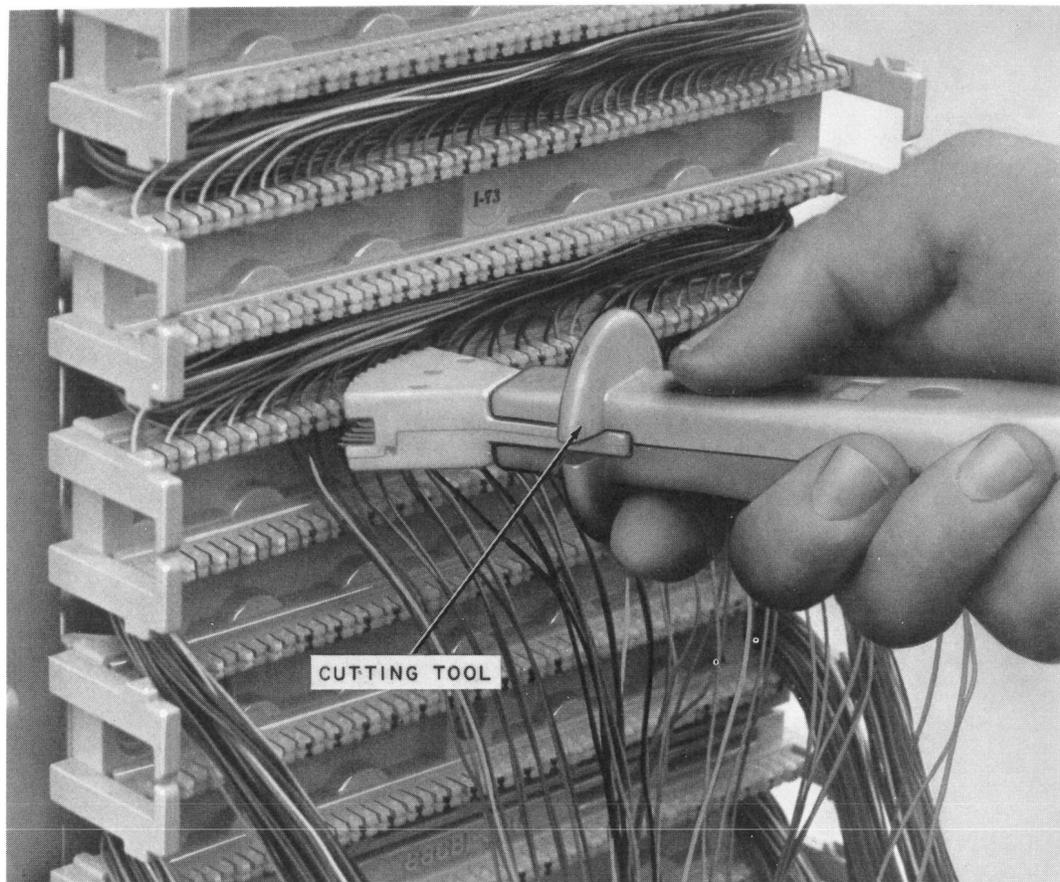

Fig. 19—Cutting Conductors
8.03 Dress the cable conductors in the wiring slot of the wiring block, then using the 5-pair cutting tool, cut the conductors at the edge of the index strip (Fig. 19). ***Exercise care to prevent cutting wrong side.*** After cutting and removing the conductors, ***check the index strip to assure that no short pieces of the cut conductors got wedged in the wiring slots thus preventing a***